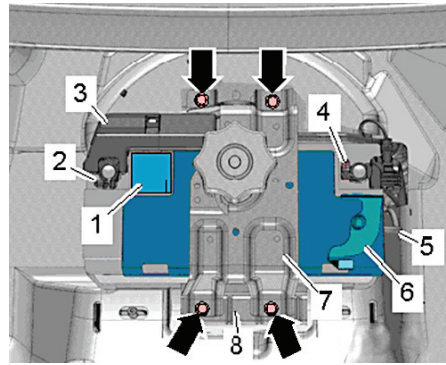

Fig. 1 Battery bracket removal
3. Open cover (6) over battery ground terminal, **Fig. 1**.
4. Loosen nut (4) several turns and remove battery ground cable from battery terminal, **Fig. 1**.
5. Open cover (1) over battery positive terminal, **Fig. 1**.
6. Loosen nut (2) a few turns and disconnect positive cable with fuse panel D (3) from battery terminal, **Fig. 1**.
7. Disconnect central gas vent hose (5), **Fig. 1**.
8. Remove bolts (arrows), **Fig. 1**.
9. Remove bracket (7) and battery bracket (8), **Fig. 1**.
2. Install battery bracket (8), **Fig. 1**. Lug at battery bracket must engage in recess at battery base strip.
3. Install bracket (7) and **torque** screws (arrows) to 13 ft. lbs., **Fig. 1**.
4. Connect central venting system hose (5), **Fig. 1**.
- a. Connect battery positive cable (2) to battery positive terminal by hand and **torque** nut to 53 inch lbs., **Fig. 1**.
- b. Close cover (1) over battery positive terminal, **Fig. 1**.